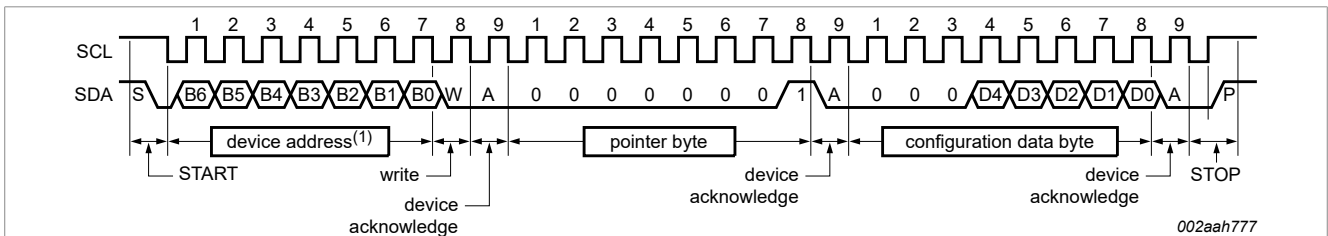
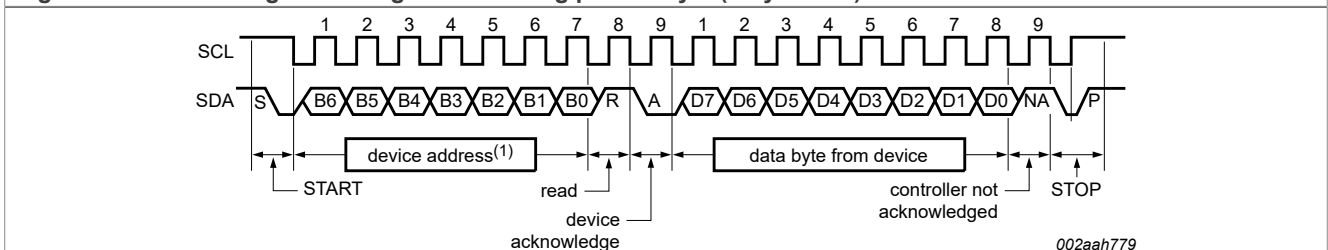
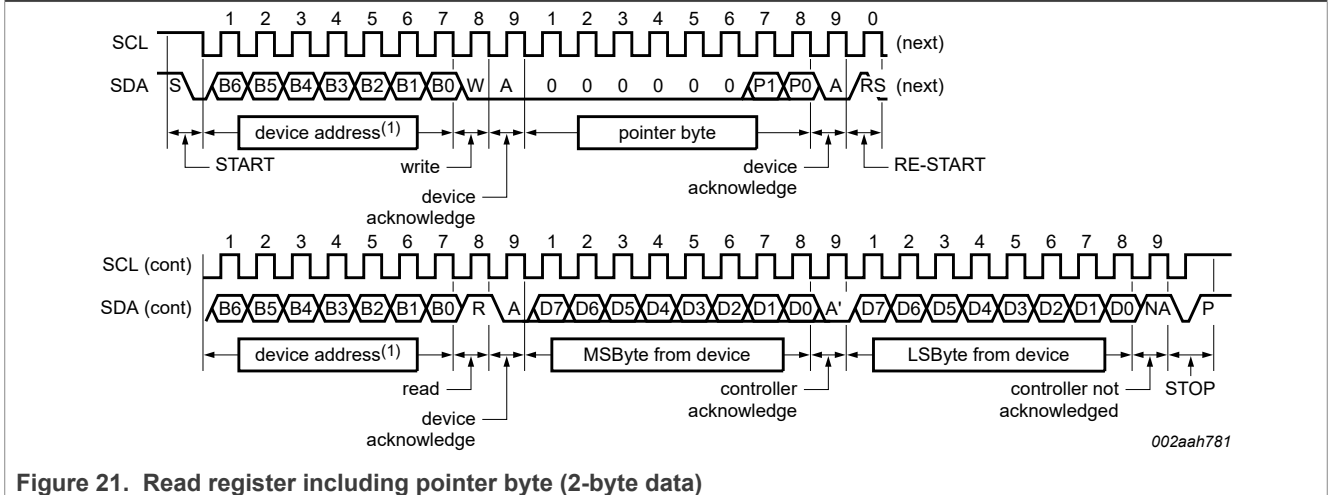
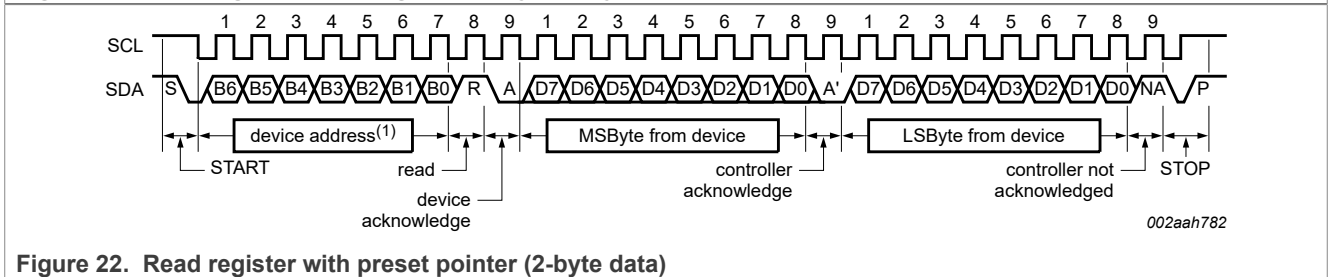

Figure 17. Write configuration register (1-byte data)
Figure 19. Read configuration or temp register with preset pointer (1-byte data)
Figure 21. Read register including pointer byte (2-byte data)
Figure 22. Read register with preset pointer (2-byte data)
The communication between the host and the device must strictly follow the rules as defined by the I2C-bus management. The protocols for device register read/write operations are illustrated in Figure 17 to Figure 22 together with the following definitions:
- 14. For best temperature accuracy, both temperature bytes must be read as shown in Figure 21 and Figure 22. But for a quick less accurate check/reduce bus transmission, only one byte, the MSByte, must be read as shown in Figure 19.